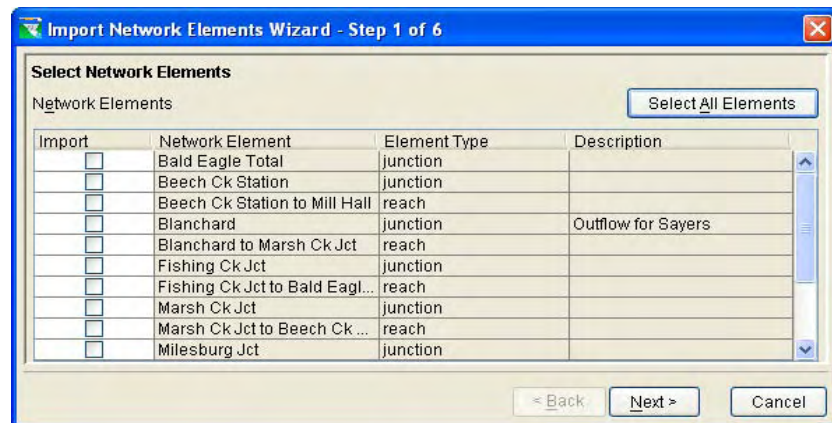

Figure 11.126 Import Network Elements Wizard – Step 1 of 6
1. From the **Edit** menu in the **Reservoir Network** module, select **Import Elements...** The **Import Network Elements Wizard – Step 1 of 6** will appear (Figure 11.126).